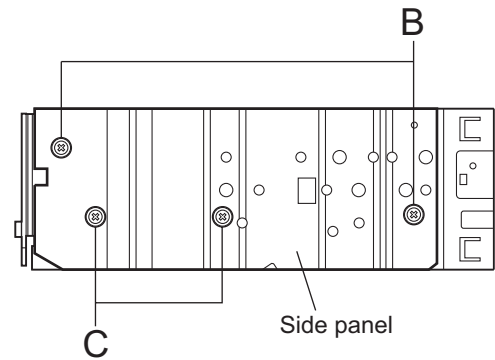

Fig.4
2.1.3 Removing the side panel (See Fig.4)